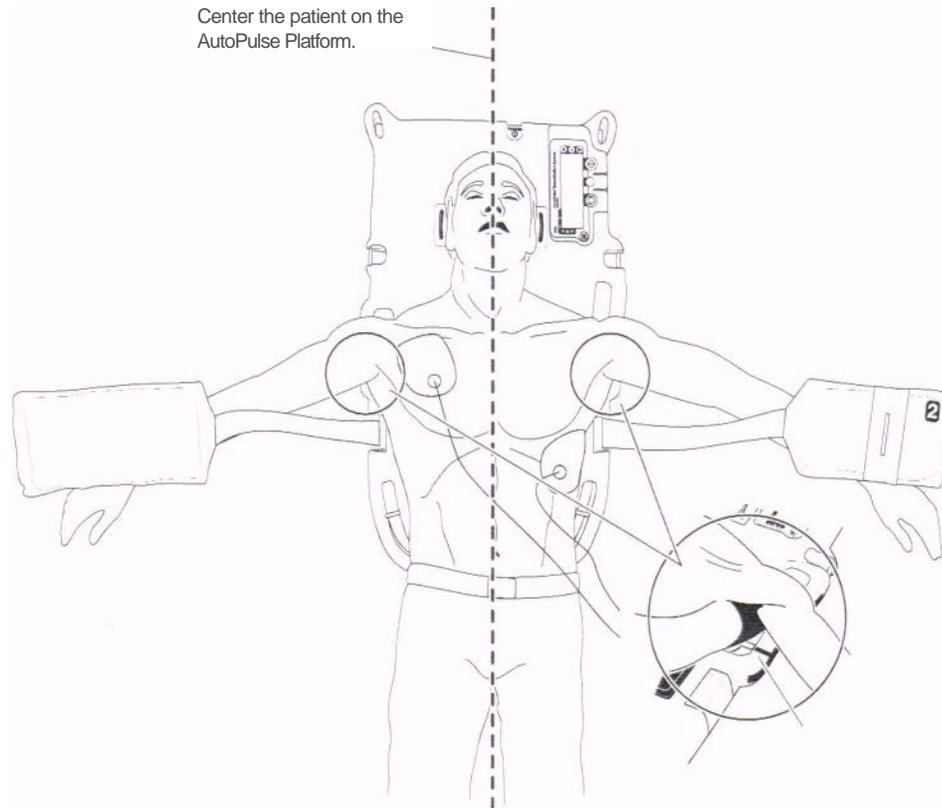

Figure 3-6 Patient Alignment
6. Position the patient so that the patient is centered laterally (from left to right) and that the patient's armpits are aligned with the AutoPulse Platform using the yellow line positioning guides on the AutoPulse Platform as shown in Figure 3-6.